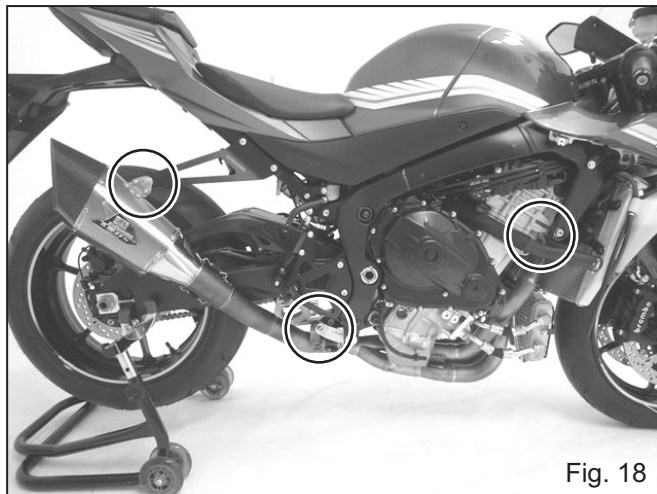

Fig. 18
- 16) Check angle of Silencer Assy and proper clearances between Yoshimura exhaust and other components from back of vehicle. Then, tighten and torque Cap Bolt M8x30 on Tailpipe Bracket, Button Bolt M6x20 and Cap Bolt M8x30 on Silencer Bracket #2 in order (See Fig. 18).